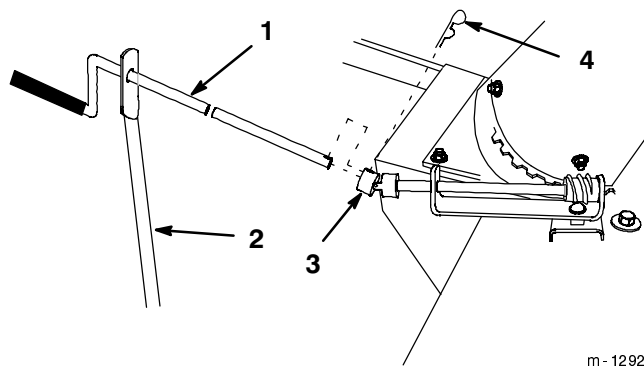

Figure 17
6. Remove the chute control rod by removing the hairpin cotter connecting it to the universal joint (Fig. 17).